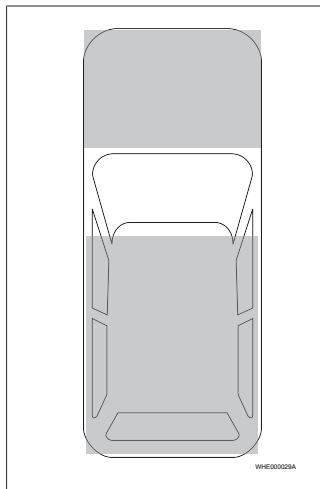

Fig. 4
Do not install the device in the grey area as shown in Fig. 4.
- ▶ Mark the location of the ThermoConnect TCon2 in the drawing in Fig. 4